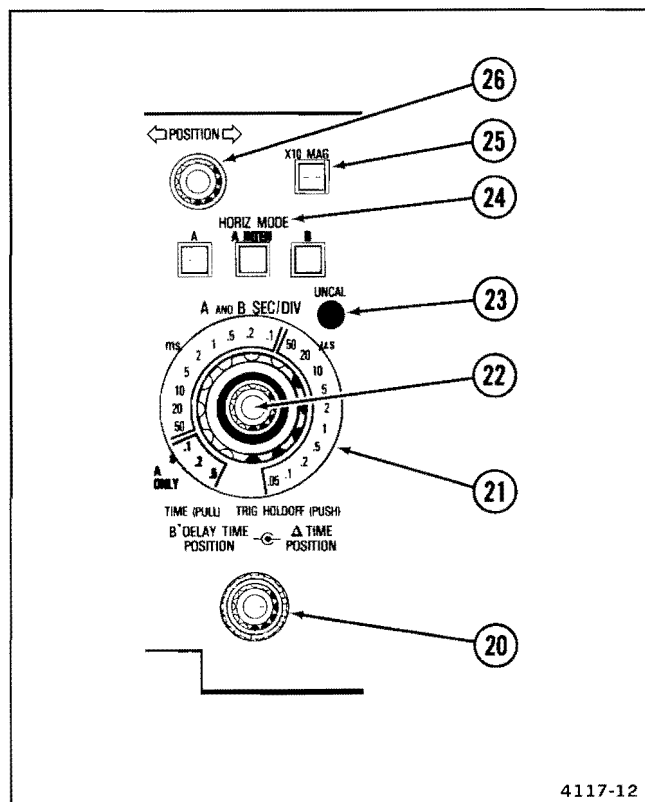

Figure 2-5. Horizontal controls and indicator.
Refer to Figure 2-5 for location of items 20 through 26.
- ⑳ **B DELAY TIME POSITION and Δ TIME POSITION Controls**—Select the amount of delay time between start of the A Sweep and start of the B Sweep. Delay time is variable to at least 10 times the A SEC/DIV switch setting. The B DELAY TIME POSITION (outer knob) controls the reference point when the B TRIGGER SOURCE switch is set to either Δ TIME or RUNS AFTER DLY. The Δ TIME (inner knob) controls the time-measurement point only when the B TRIGGER SOURCE switch is set to Δ TIME. When the time-measurement point is to the left of the reference point, the LCD readout indicates a negative time difference.